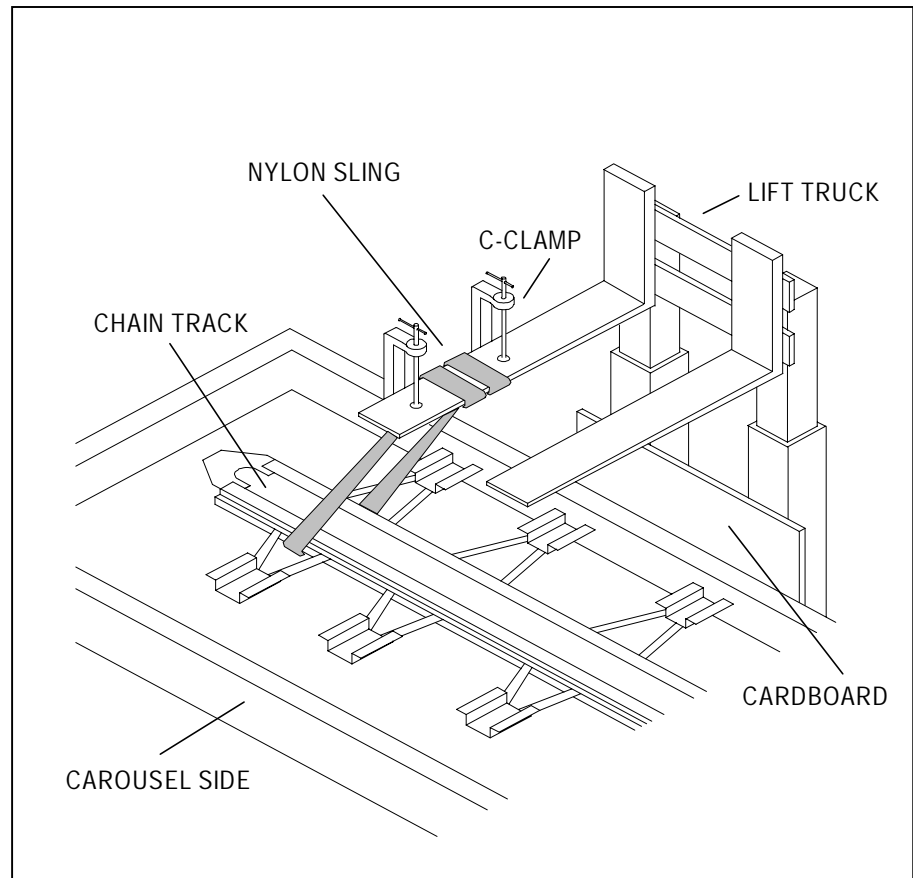

Figure 10. SLING ATTACHMENT FOR LIFTING
5. Attach a sling around the chain track at the lift point (see Figure 10).